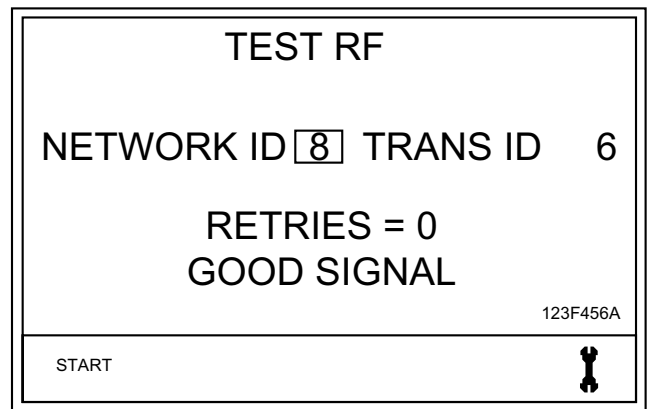

FIG. 8
*If the signal is good on the following message displays on the meter screen (FIG. 8):*